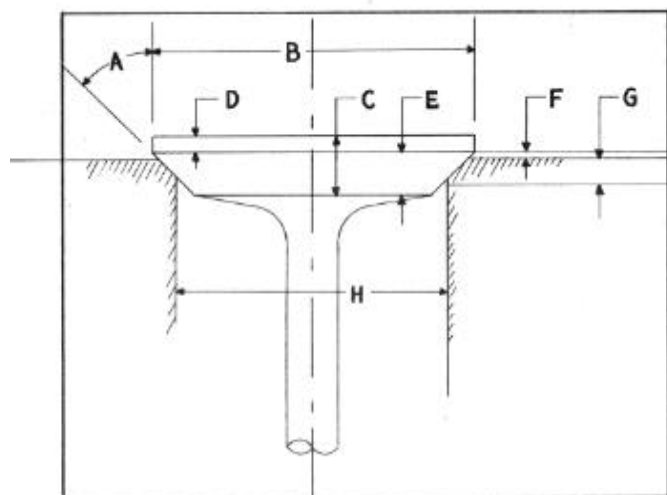

FIGURE 15
**NOTE: The following chart is used in conjunction with the letters and dimensional lines in Figure 15, should be used as a guide when performing any valve work.**